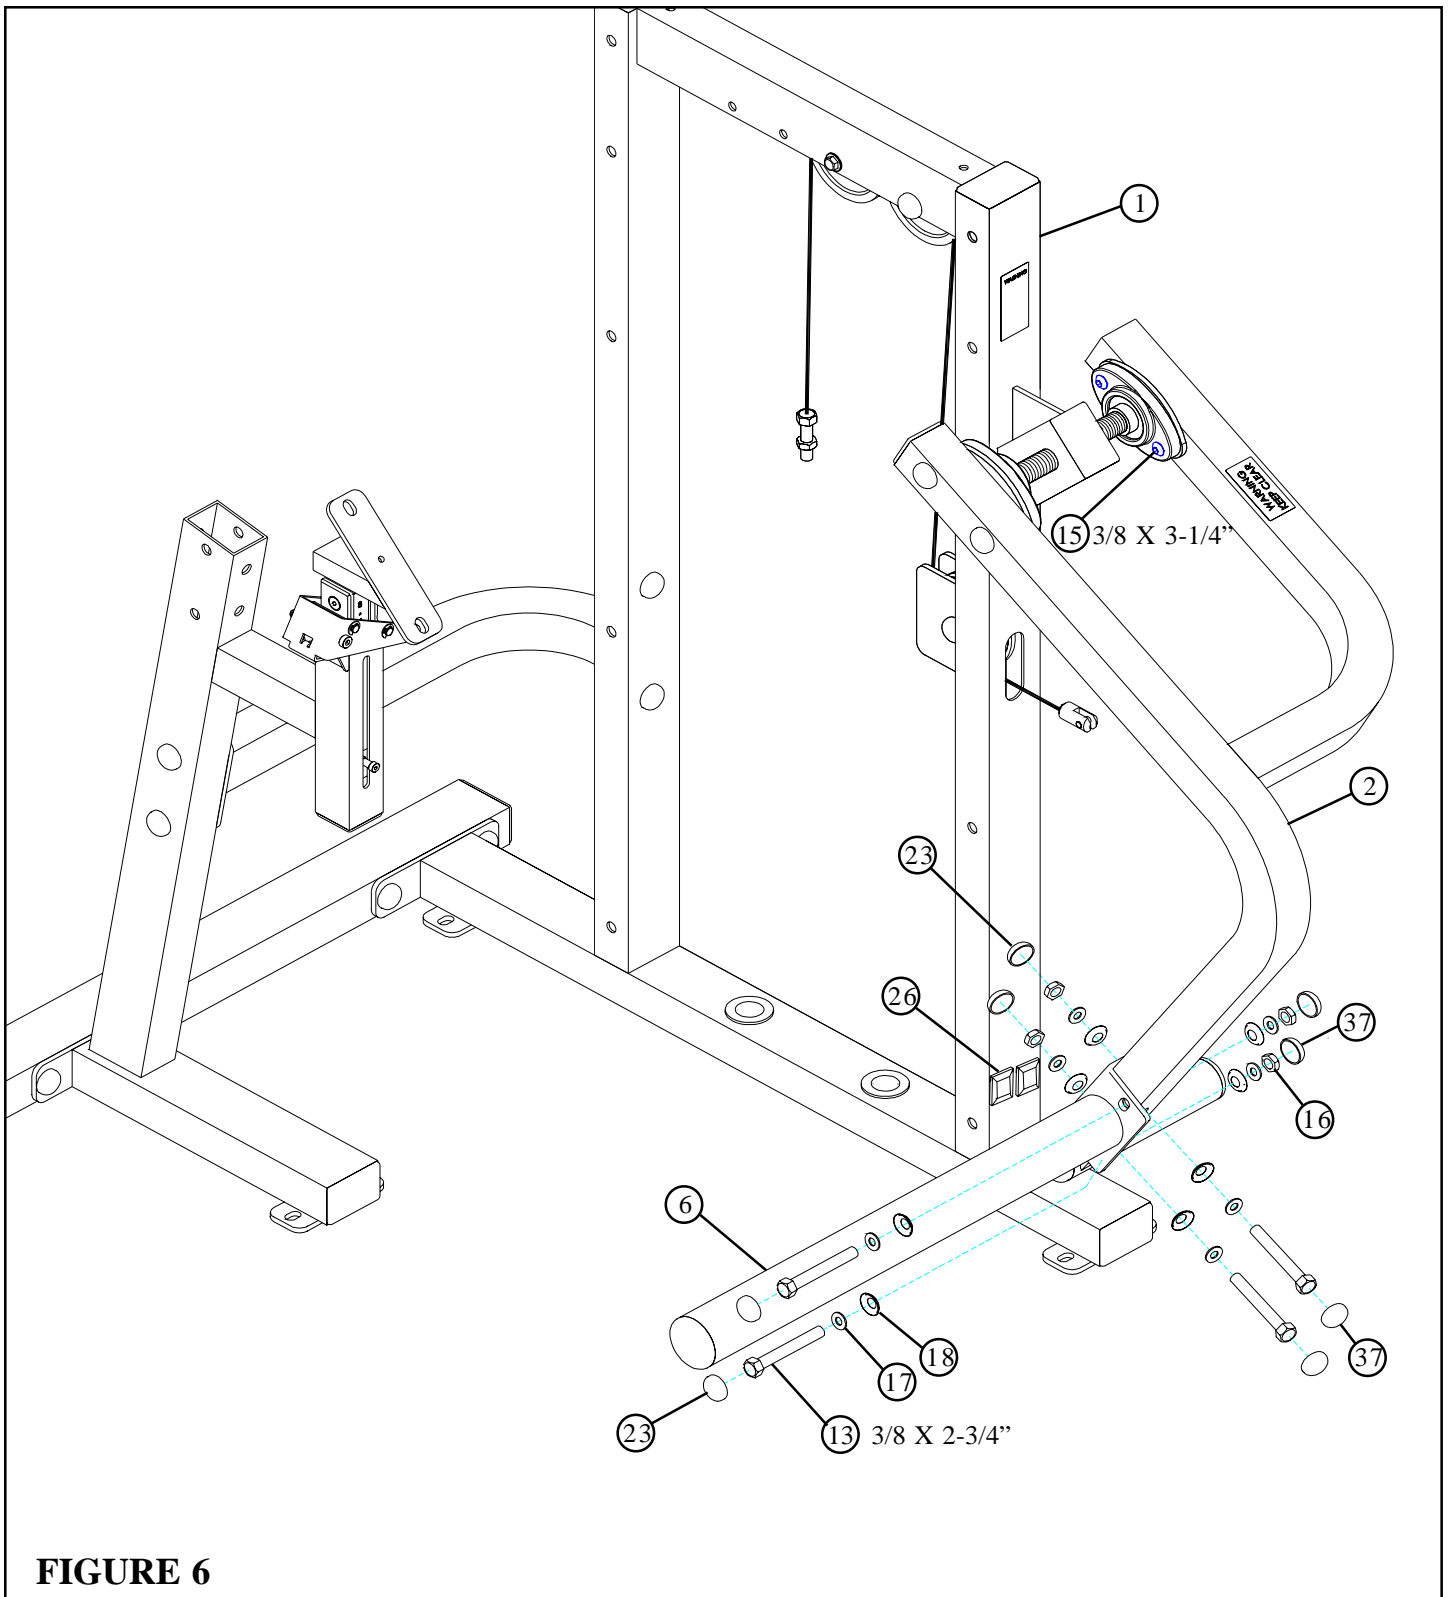

FIGURE 6
- **SECURELY** assemble the FOOT SUPPORT (6) to the PIVOT ARM (2) using four 3/8 X 2-3/4" BOLTS (13), eight 3/8" SAE WASHERS (17), eight RH WASHERS (18), four 3/8" LOW HEIGHT LOCK NUTS (16), four BLACK RH CAPS (23) and four RH CAPS (37) as shown in FIGURE 6
- Assemble two RUBBER BUMPERS (26) to the TOWER (1) where the PIVOT ARM (2) contacts the TOWER (1).
- **IMPORTANT!** When FOOT SUPPORT (6) is centered and level to the floor, **SECURELY** tighten the 3/8 X 3-1/4" BUTTON HEAD BOLTS (15).